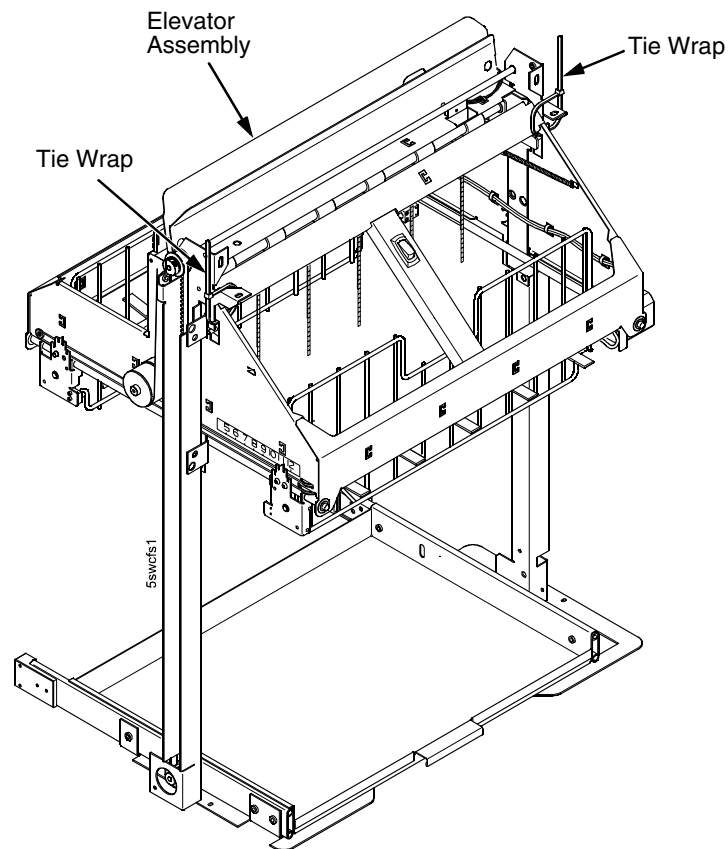

Figure 82. This figure shows how to tie the elevator assembly preparatory to removing the constant force spring.
2. Raise the elevator assembly to about 1/4 inch short of its highest position and secure it to the vertical rails using tie wraps or string. Do not over-tighten the tie wraps or string; tighten them just enough to hold the elevator up. (Figure 82.)
2. Raise the elevator assembly to its highest position and secure it to the vertical rails using tie wraps or string. (Figure 82, page 503.)